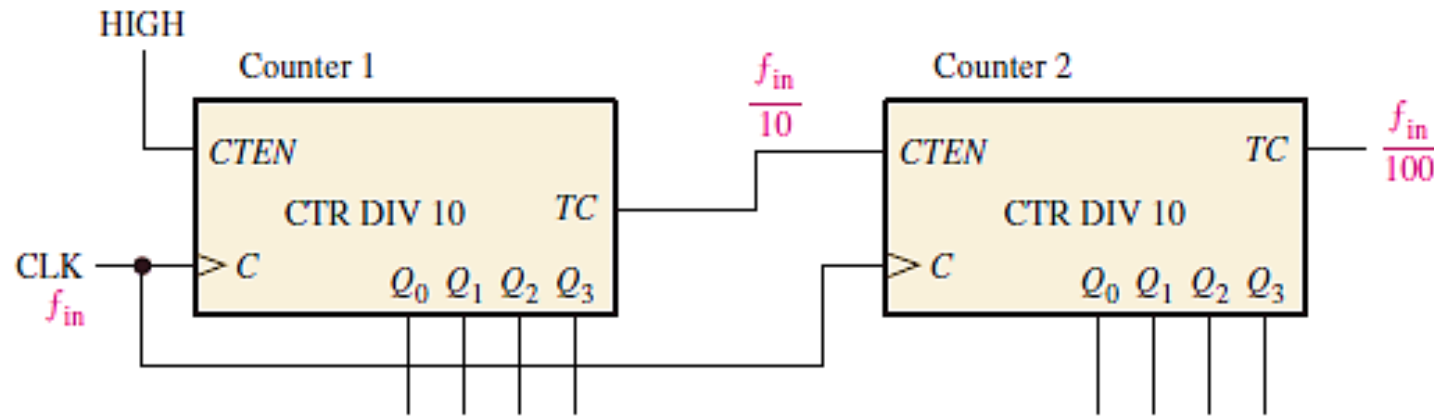

FIGURE 3 A modulus-100 counter using two cascaded decade counters.
- On some devices the count enable is labeled simply CTEN (or some other designation such as G), and terminal count (TC) is analogous to ripple clock output (RCO) on some IC counters.
- Figure 3 shows two decade counters connected in cascade.
- The terminal count (TC) output of counter 1 is connected to the count enable (CTEN) input of counter 2.